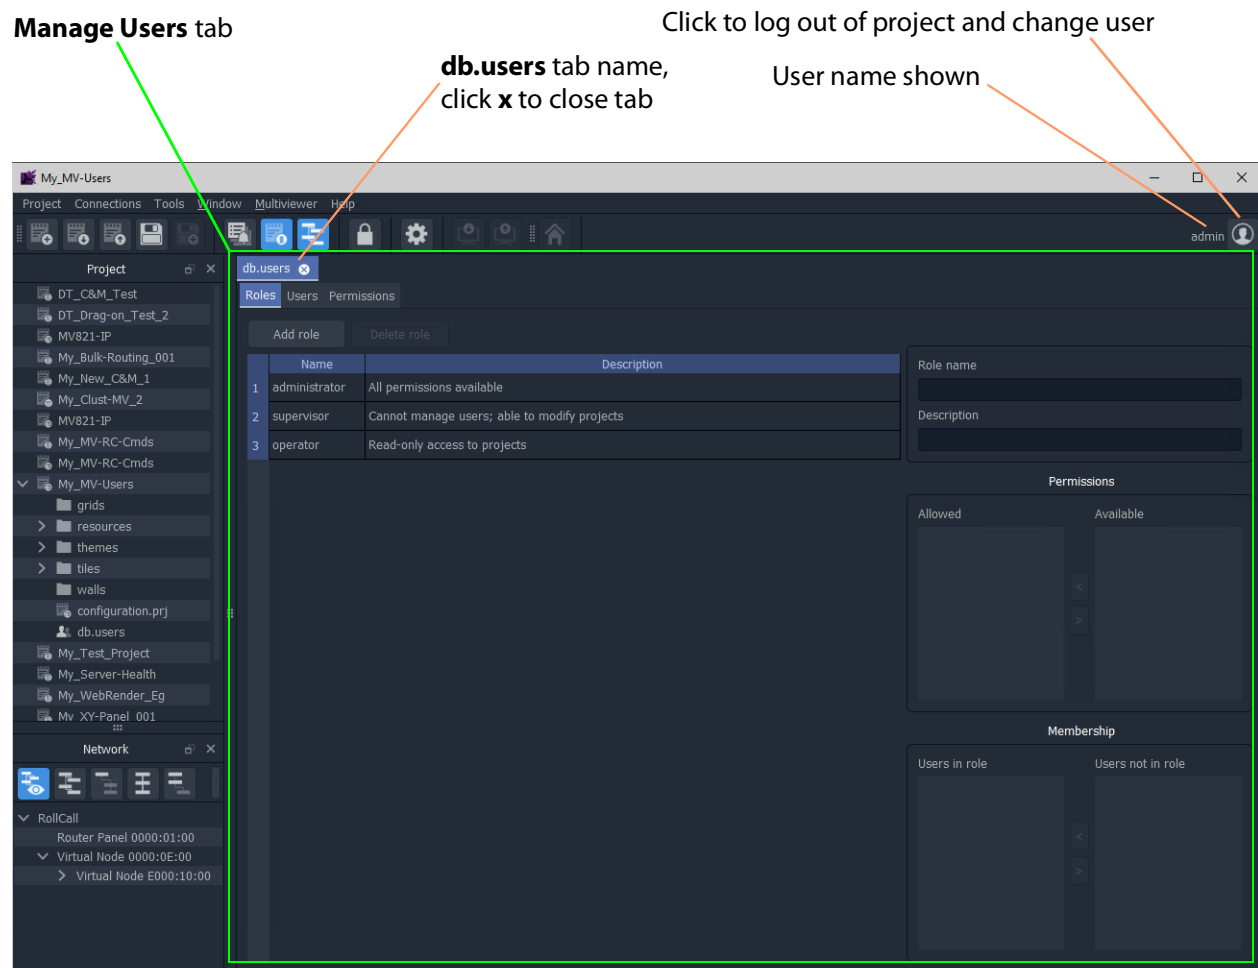

Fig. 4-4: Manage Users Tab ('Roles' Tab shown)
- The **Manage Users** tab is shown. See Figure 4-4 on page 163.
The **Manage Users** tab is shown. See Figure 4-4 on page 163.
A file with the name "db.users" appears in the **Project** window, see Figure 4-4. This file contains encrypted project information, including user name and password details.